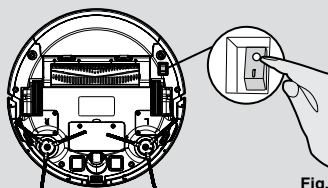

Fig. 9
Switch on the vacuum robot with the On/Off switch on the bottom (I). [Fig. 9] Set it down in front of the charging station.
1. Press the ON/OFF power switch on the bottom robot. [Fig. 9]